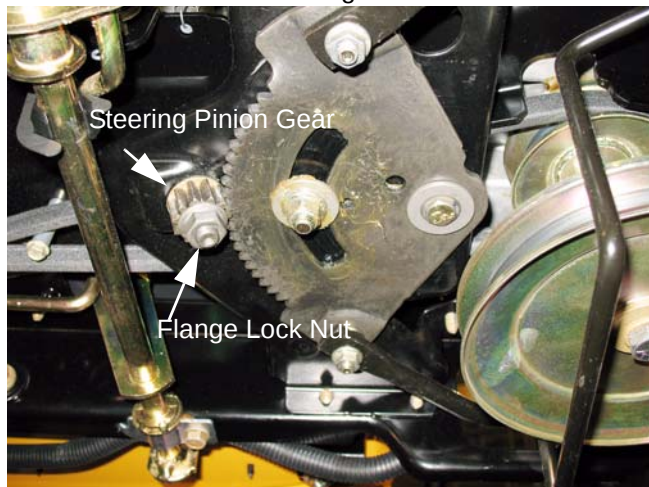

Figure 3.9
3. Remove the flange lock nut securing the steering pinion gear to the steering shaft using an 11/16" socket . See Figure 3.9.